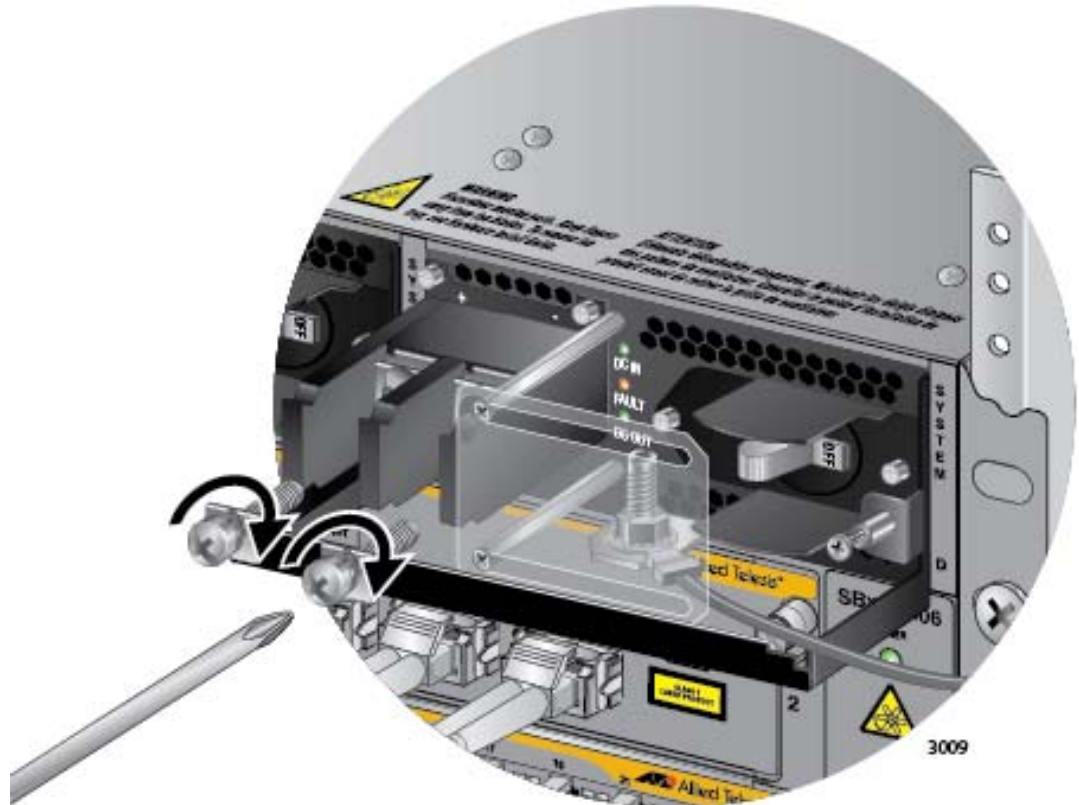

Figure 174. Reinstalling the Screws on the Positive and Negative Terminals
7. Reinstall the two screws on the negative (-) and positive (+) terminals. Refer to Figure 174 on page 277.